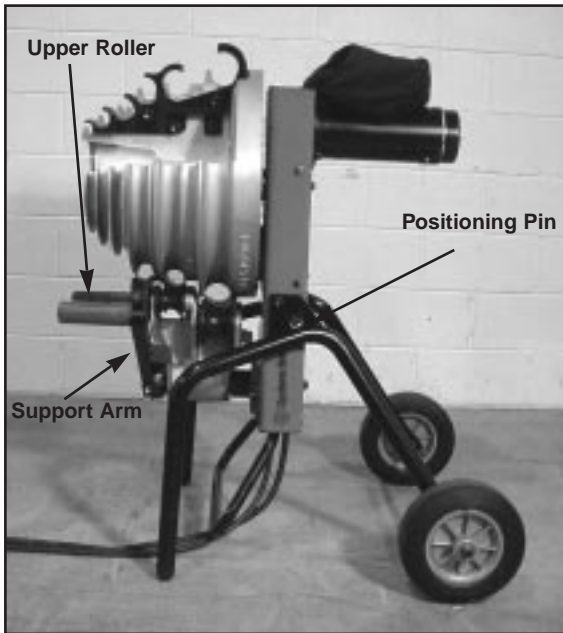

Figure 1. Vertical Position
⚠ CAUTION: To prevent damage to the bending shoe, do not allow the clamping jaws to strike the upper roller support arm when the shoe is rotating. Position the roller housing against the frame stop. See Figure 1.
1. Position the bender in a level dry area large enough to permit loading and unloading various lengths of conduit. Plug power cord into a 115 volt outlet. Position the frame, either horizontally or vertically, by pulling the spring loaded pin on the side of the bender frame. See Figure 1.